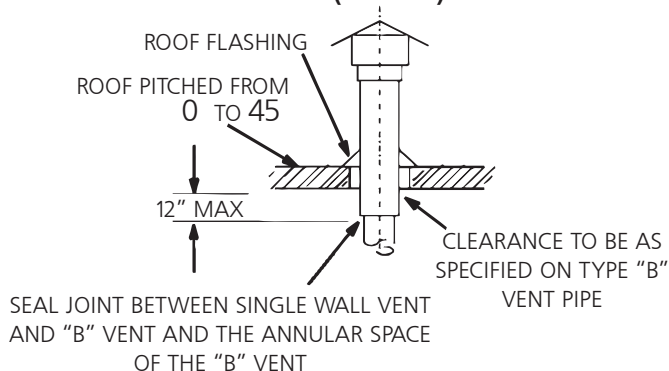

FIGURE 2
1. US: MHU unit heaters are to be used with NFPA- or ANSI-approved chimneys, U.L. listed type B-1 gas vents, single wall metal pipe, or listed chimney lining system for gas venting where applicable, as well as the modifications and limitations listed in figure 2. Seal single wall vent material according to the section A - General Recommendations and Requirements.
- When termination is routed through an exterior combustible wall the vent must be supported using a listed clearance thimble. Seal the connection between the single wall and double wall pipes and the annular space of the double wall pipe as shown in figure 2. Inside edge of vent termination tee must be at least 12 inches from outside wall as shown in **figure 3**.